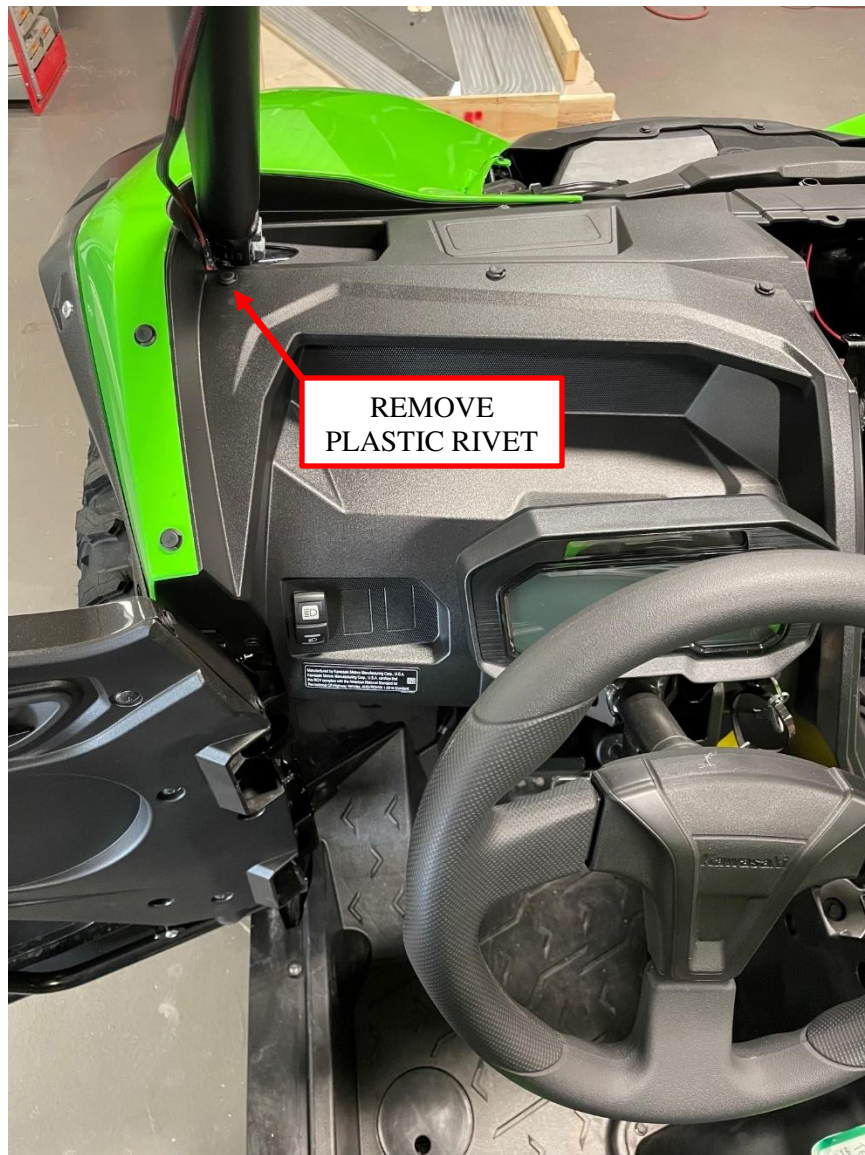

Figure 13: Chassis harness routing under panels up to the down tube.
11. Remove the plastic rivet by the driver's front down tube, and route the end of the chassis harness up through the panels as shown in Figure 13.
19. Reinstall the plastic pop rivet by the driver's front down tube seen in Figure 13.